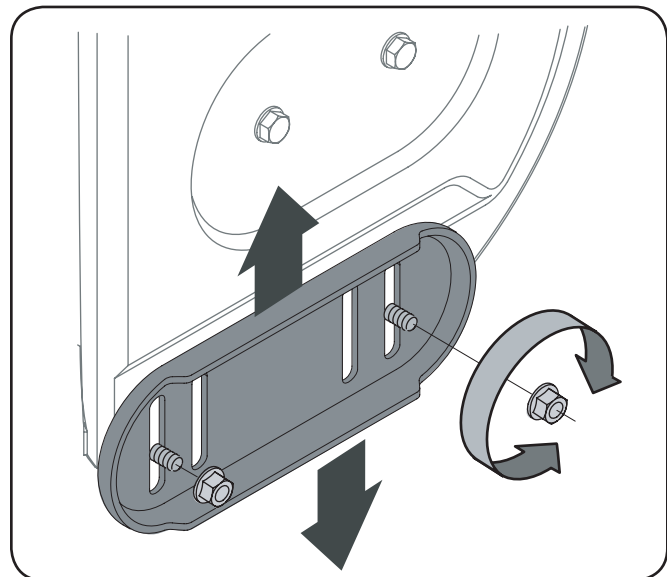

Figure 3-23
1. Loosen the four hex nuts (two on each side) and carriage bolts. Move skid shoes to desired position. See Figure 3-23.